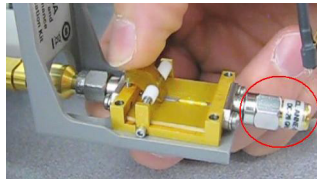

Figure 74 50Ω Terminator on N5443A
- a Connect a 50 ohm termination to the fixture as shown in **Figure 74**. The termination is provided with the N5443A.